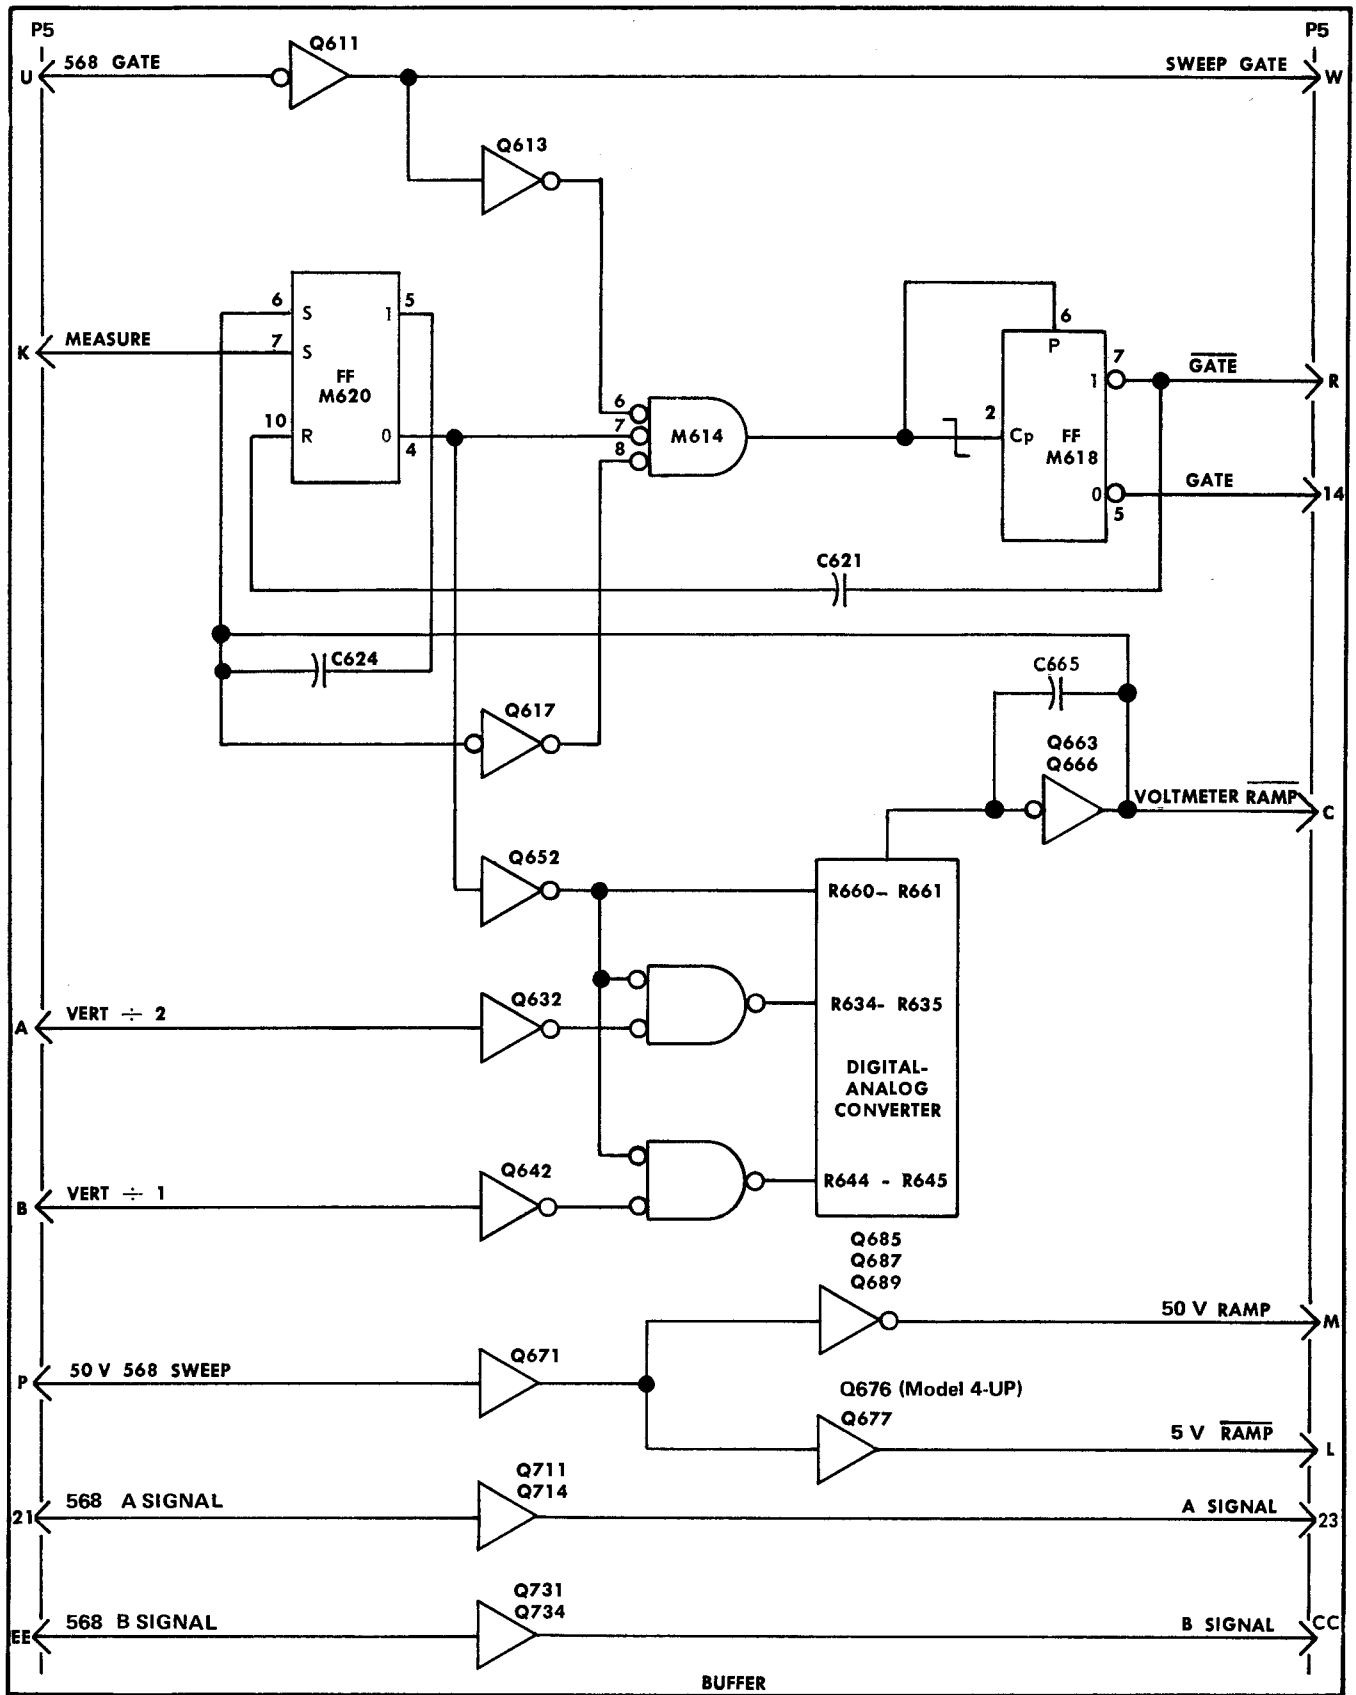

Fig. 4-6. Buffer circuits logic diagram.
**GATE and  $\overline{\text{GATE}}$  Generator Circuit.** The signal on connector P5 pin U (see Fig. 4-6) is actually the plus gate from the time base plug-in unit. Throughout this description this particular signal is referred to as the 568 GATE since it arrives via the Type 568. The 568 GATE goes high at the start of the sweep, then goes low as the sweep ends.